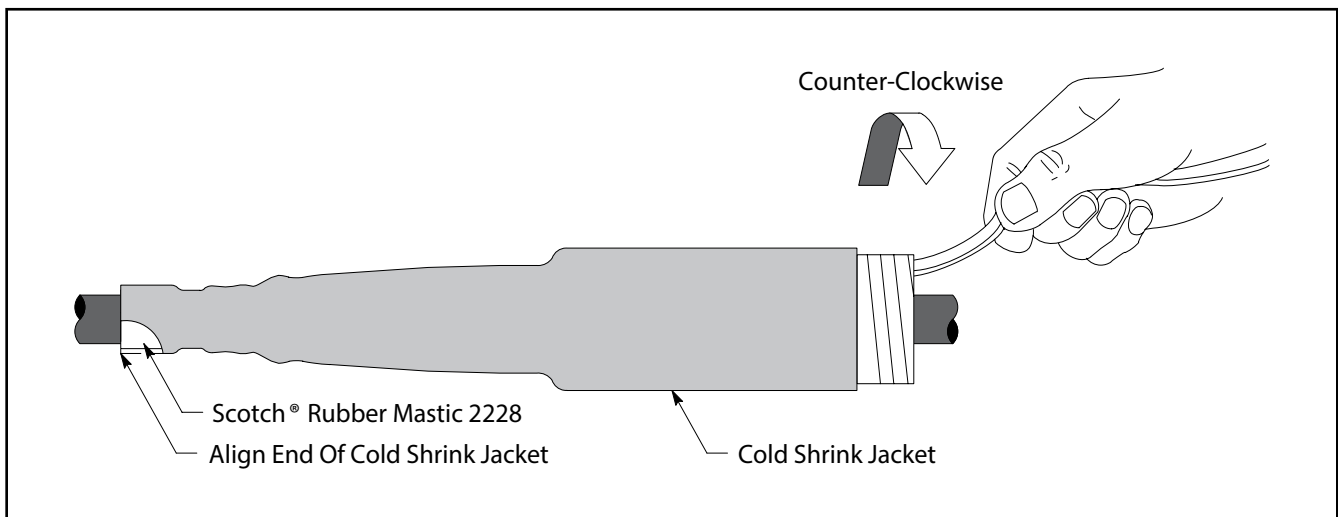

Figure 18
- 9.2 Slide cold shrink splice jacket into position over splice. Align end of cold shrink jacket (not core) so that previously applied 2228 rubber mastic wrap is completely covered (*Figure 18*).